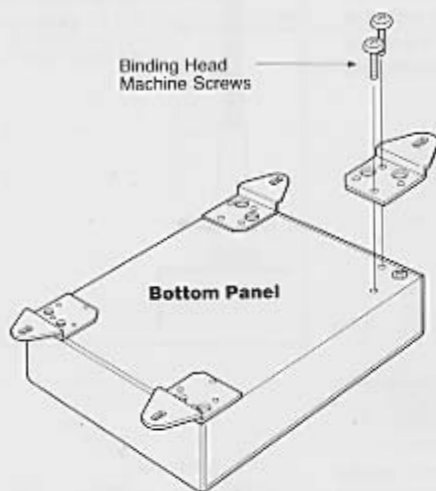

Fig. 1
- ① Attach the supplied corner angles to the unit (see Fig. 1).